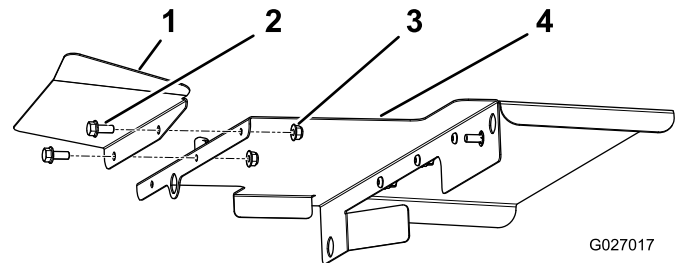

Figure 15
3. Install the right cover shield to the right cover (Figure 15).